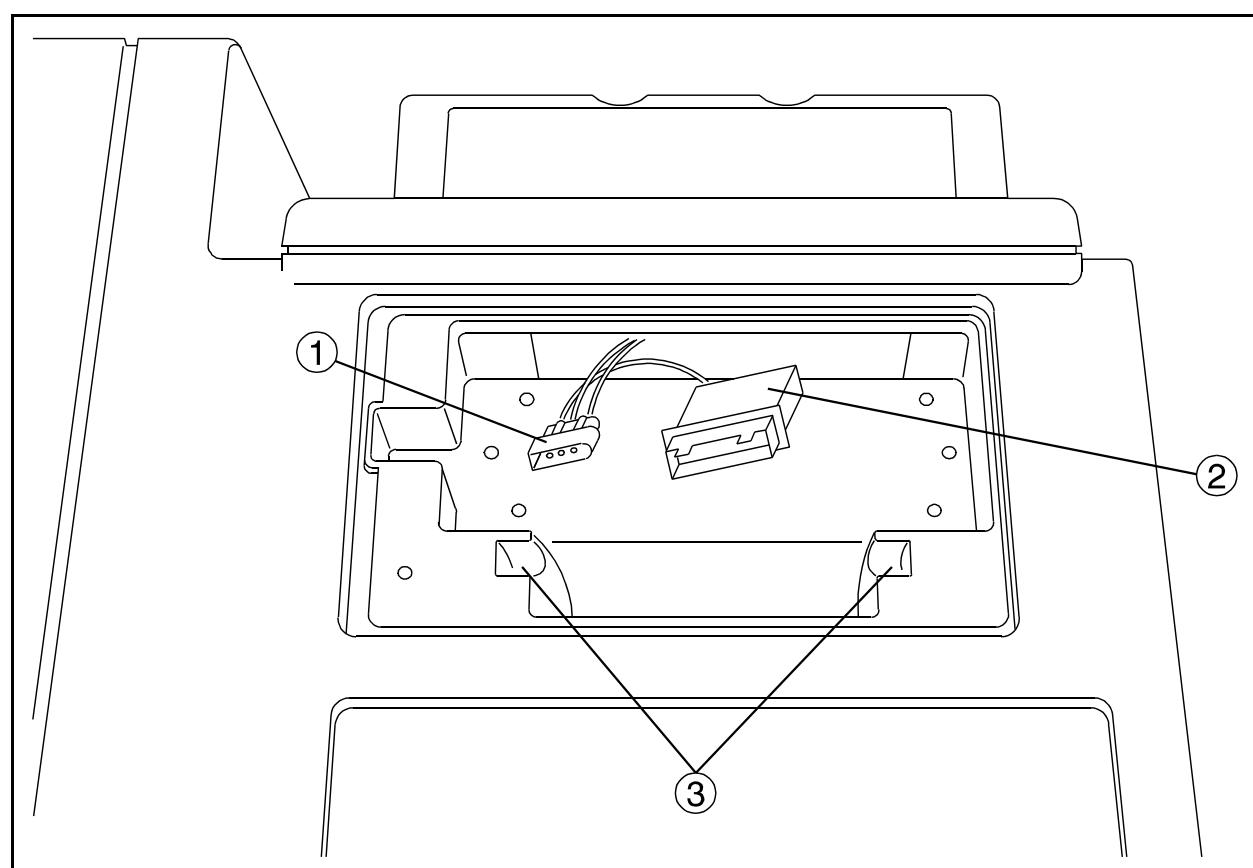

Figure 4-4 Location of cables under the panel for the Internal Printer (336088) — viewed from the rear of the instrument
3. Unfold the two cables located under the panel (Figure 4-4).
11. Place the printer paper on the paper bar and place the paper bar in the appropriate slot on the printer compartment (Figure 4-4).